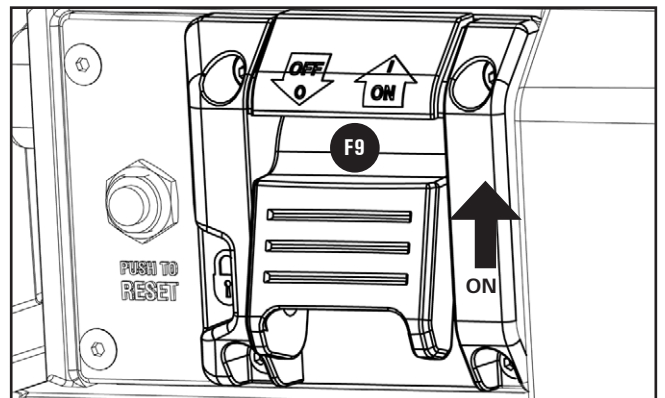

FIGURE 10
1. To turn the planer "ON", lift the paddle **F9**. To turn the tool "OFF", push the paddle down, as shown in Figure 10.